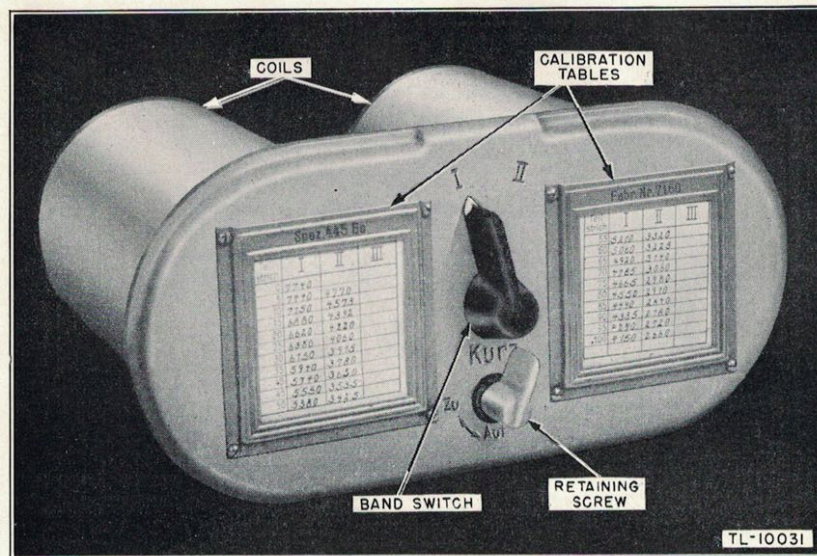

Figure 2. Typical plug-in coil unit for German radio receiver, **Spez. 445 b Bs**.
**b. Plug-in Coil Units.** The frequency range of the set is made possible by the use of three plug-in coil units. Each of these units (fig. 2), has a band switch incorporated within it. Calibration tables are provided for each of the frequency ranges covered and correspond to the readings on the tuning dial. The approximate frequency coverages of the plug-in coil units are listed below: